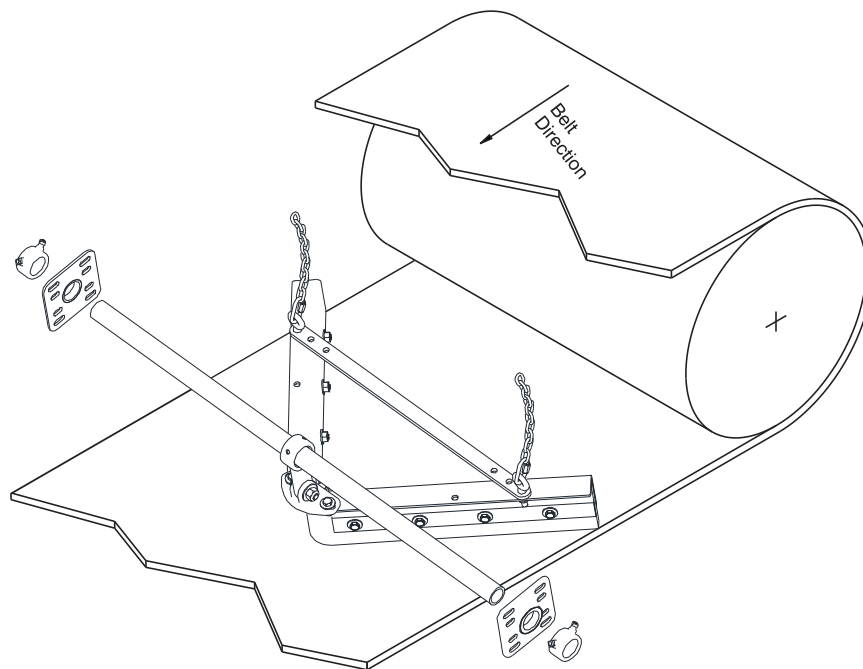

Fig 1.
- Step 2a.** Assemble the plow into position in the conveyor frame as shown in Fig. 1. The plow is tensioned into the belt by gravity. When the chain is vertical and the connecting rod is vertical it is then time to change the rubber on the plow. The collars on the mounting tube may be located inside or outside of the mounting plate. Their only purpose is to prohibit the shaft from lateral movement.